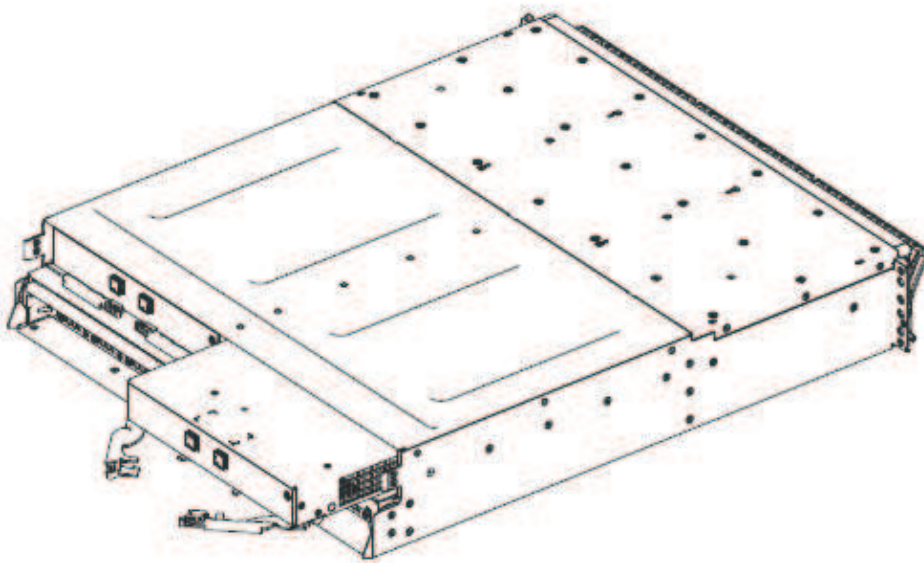

Figure 47. Removing and replacing the Storwize V7000 Gen2 expansion canister
6. Open the two release levers as shown in Figure 47 on page 183. The canister moves out of the slot approximately 0.6 cm (0.25 inch).